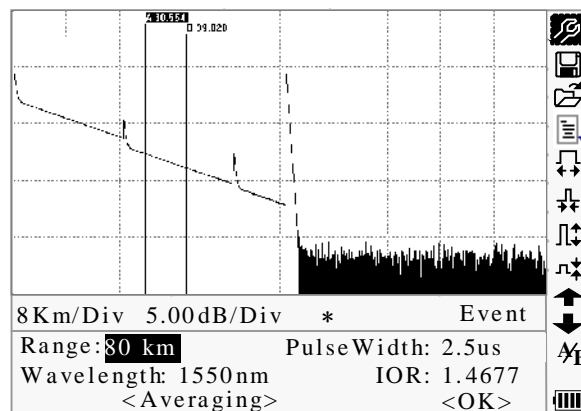

Figure 4-8. Realtime Testing
- use [◀] and [▶] to move the parameter to be changed(Figure 4-8), and the press [Enter].